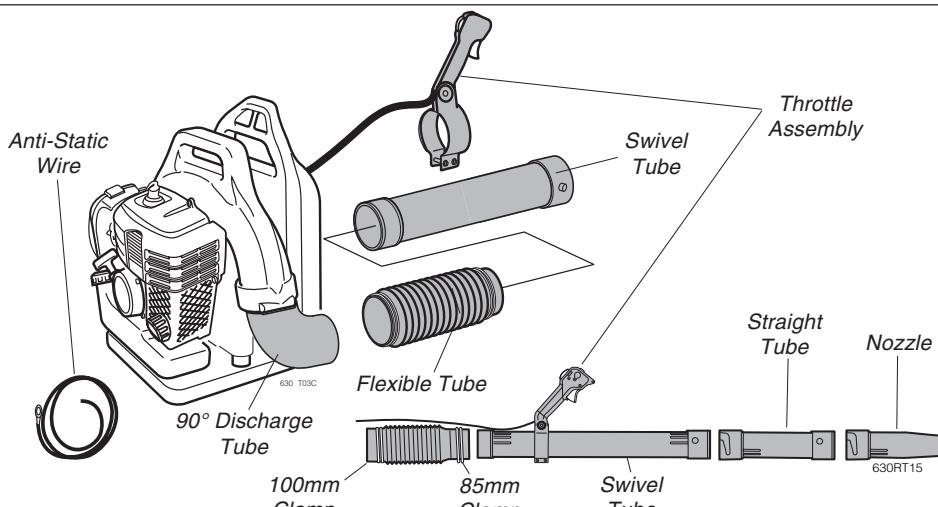

Figure 7
1. Place the blower upright on the ground or a sturdy work surface and note parts orientation as shown in figure 7.